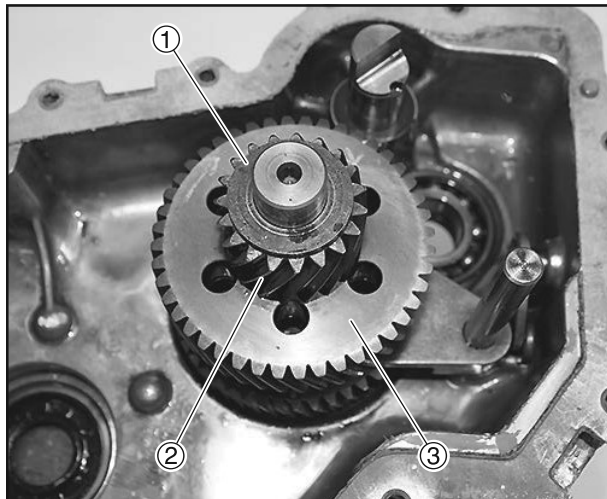

Figure 6-88
4. Install the reverse gear (Figure 6-88, (3)) and gear (Figure 6-88, (2)) and washer (Figure 6-88, (1)).